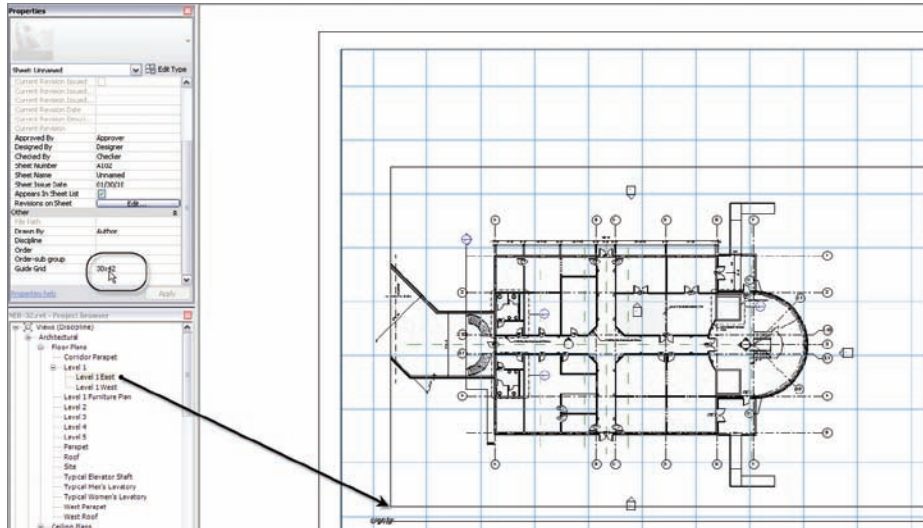

FIGURE 14.6 Adding another sheet
4. At the bottom of the Properties dialog, select 30x42 as the guide grid, as shown in Figure 14.6.
6. Pick a point on the sheet to place the view aligned with the guide grid, as shown in Figure 14.6.